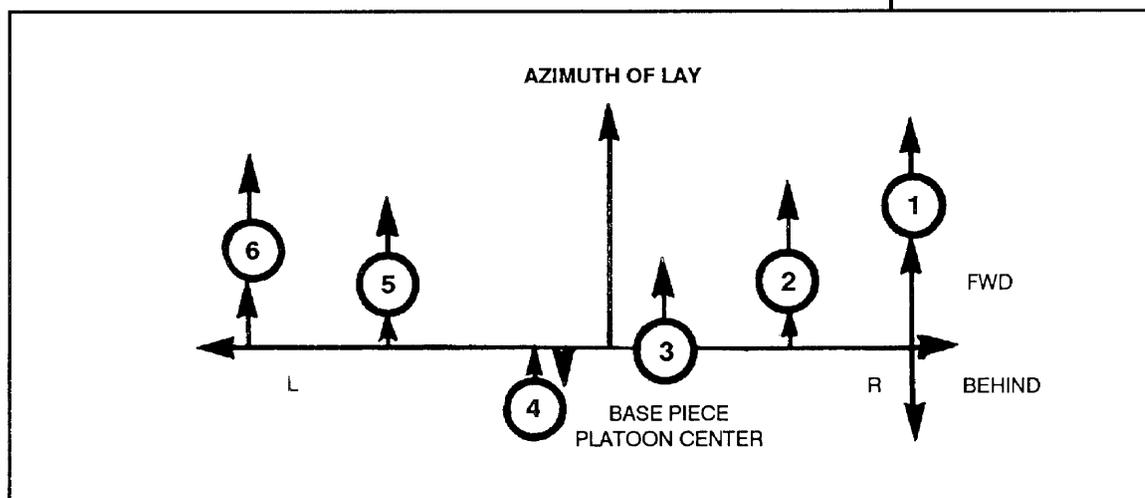

Figure 7-18. Piece displacement relative to base piece.
a. **Piece Displacement.** To determine the position corrections for each mortar, the relative position of the mortars in the platoon area must be known. Piece displacement is the number of meters the piece is forward or behind and right or left of platoon center. It is measured on a line parallel (forward or behind) and perpendicular (right or left) to the azimuth of lay (Figure 7-18). Piece displacement can be determined by estimation, pacing, or hasty traverse.
(1) The *estimation technique* is the least desirable method. Using this technique, the platoon leader or section chief estimates the displacement about the platoon center perpendicular to the azimuth of lay.
(2) The *pacing technique* provides accuracy in small open areas but is time-consuming. In using this technique, the platoon leader measures the lateral distance from the base piece and the distance forward or behind the base piece to each mortar.
(3) The *hasty traverse technique* is the most accurate and rapid technique for determining piece displacement. (See FM 23-91 for detailed discussion of the hasty traverse technique.)